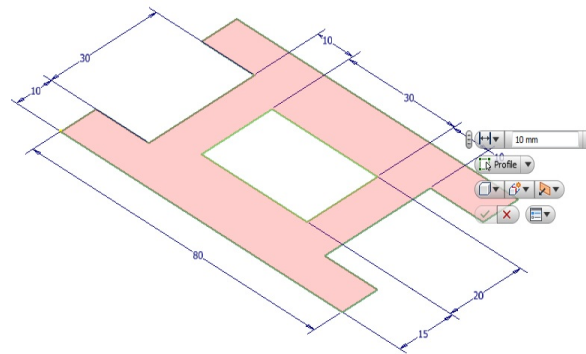

Figure 4-82 Selecting the profile to be extruded
2. Move the cursor outside the inner loop but inside the outer loop; the profile is highlighted, as shown in Figure 4-82.
As shown in Figure 4-82, the area inside the inner loop is not highlighted. This shows that the selected profile, when extruded, will have a cavity at the center. This cavity is defined by the inner loop.
3. Click anywhere in the highlighted area, refer to Figure 4-82; the preview of the extruded model along with the mini toolbar interface is displayed in the drawing window.